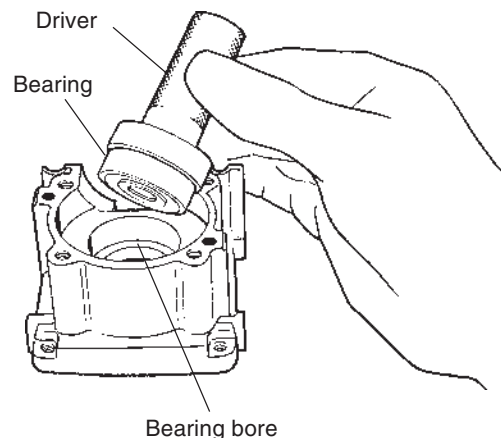

Figure 8.12 Installing a bearing with a driver.
**STEP 1.** Drive the bearing into the crankcase using the appropriate bearing driver and a dead-blow mallet, until the bearing contacts the base of the bearing bore (Figure 8.12).